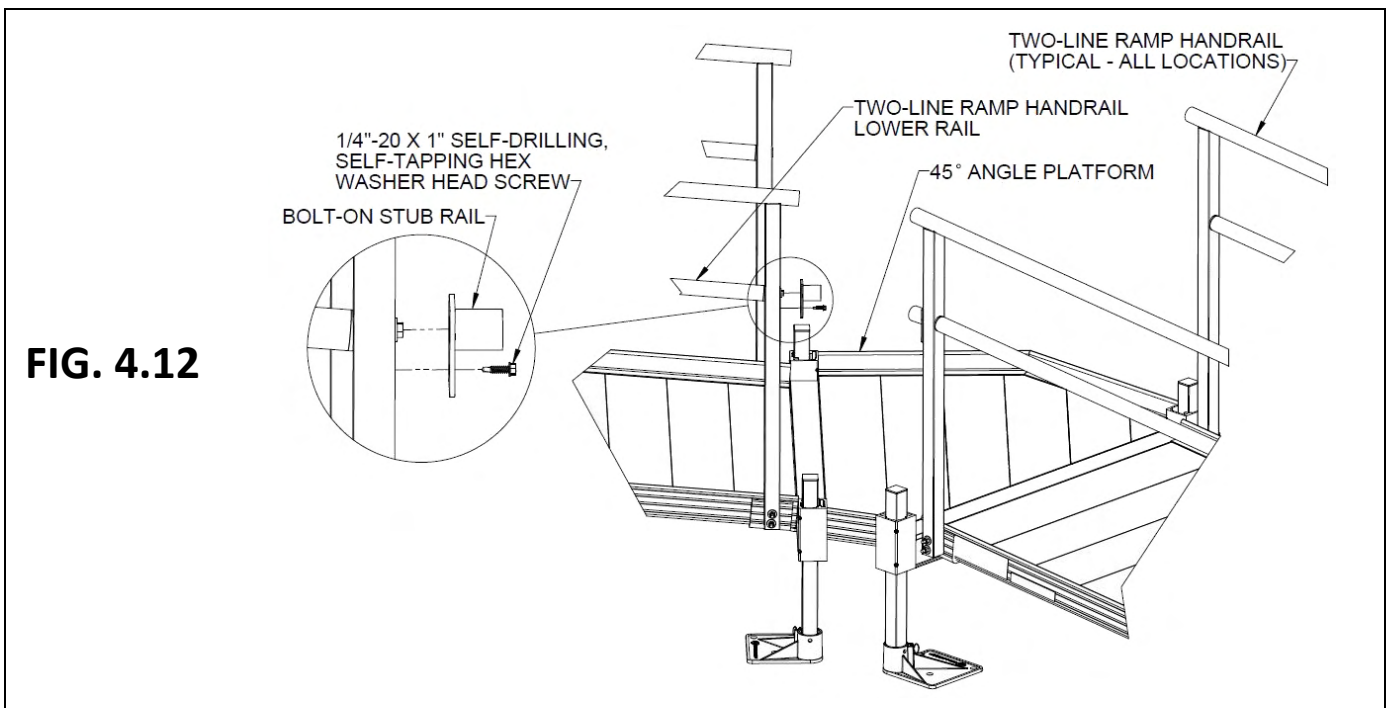

FIG. 4.12
- 4.6.3. After installing the ramp handrails, attach two Bolt-On Stub Rails to the ramp handrail posts on the “short” side of the 45-degree Angle Platform. Center the 1-1/2” diameter tube of the Bolt-On Stub Rail with respect to the ramp handrail lower rail and secure using a 1/4”-20 x 1” self-drilling, self-tapping hex washer head screw (FIG. 4.12).